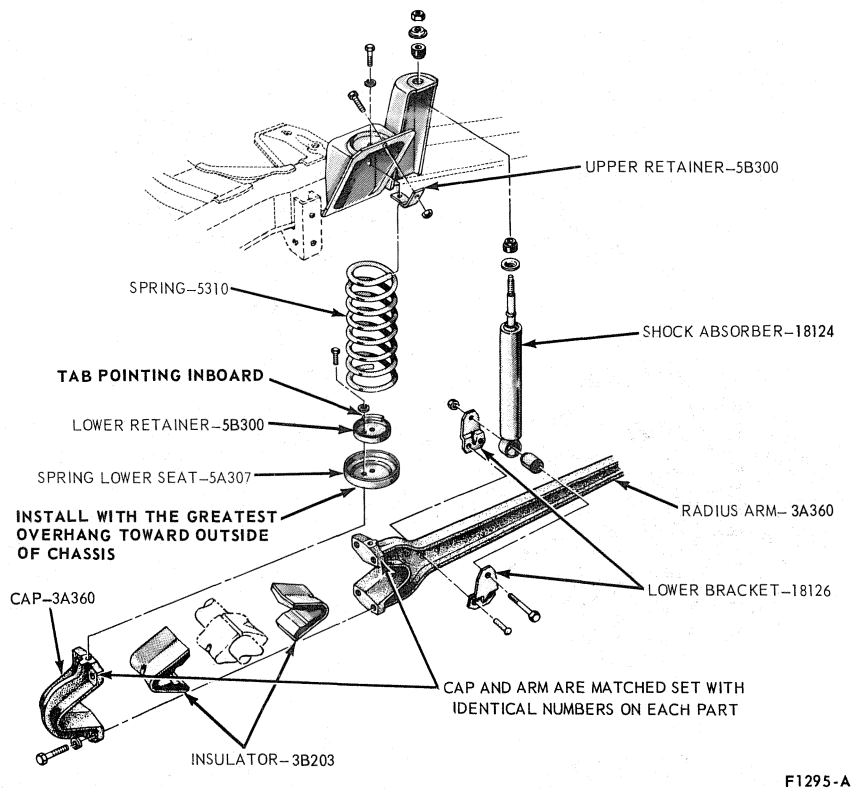

FIG. 3—Front Suspension Disassembled—Bronco
1. Remove the bolt and nut attaching the shock absorber to the lower bracket on the radius arm (Fig. 3).